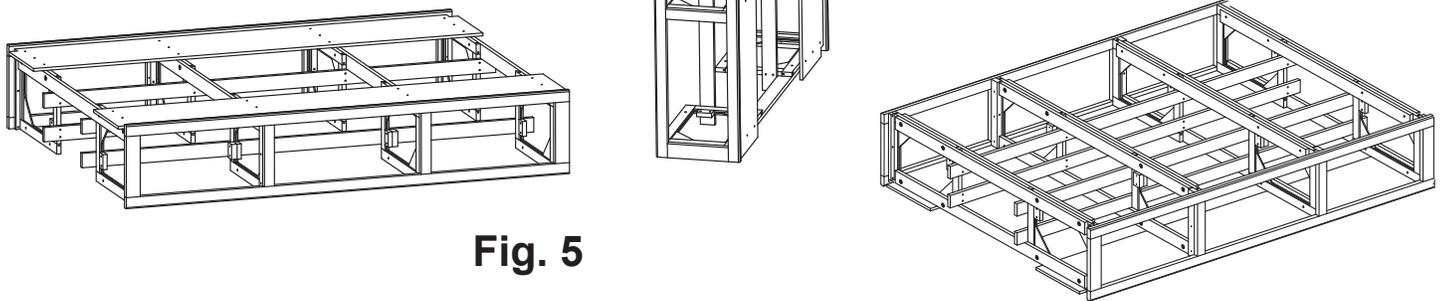

Fig. 5
5. Rotate Pedestal Assembly upside down so the plywood Deckboards are on the floor. See Figure 5.